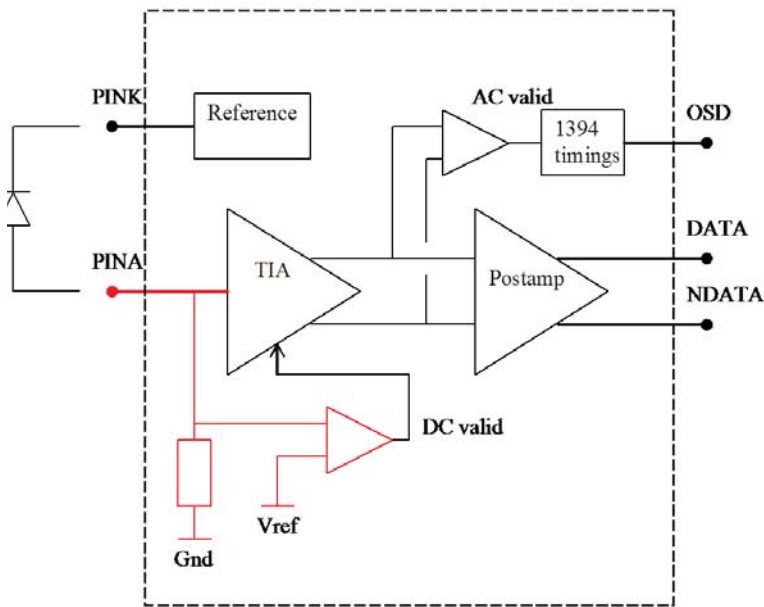

Figure 5.
The FDL301E/D FOT pair, when configured as IEEE 1394-compliant, supports the IEEE 1394b and IDB-1394 PMD wake up on LAN specification. Low power mode is triggered by the differential voltage signal swing at the input to the Tx dropping below 50 mV. In this case, the Tx switches to a sleep power state consuming a maximum of 20 μA . Ultra-low power mode is triggered by a hard-disable of the Tx, which is when the power to the Tx is switched off ($V_{cc} = 0\text{ V}$). In both low power and ultra-low power cases, the Rx responds to the Tx powering down. With the Tx powered off, the Rx signal detect (SD) drops low and remains low for more than 50 ms at which point the Rx also switches into sleep mode (consuming a maximum of 20 μA). The last power mode is referred to as power off. This occurs when the DC power (V_{cc}) to both the Tx and Rx is hard-disabled (switched off). The wake up is described by the circuit diagrams shown in Figures 5 through 7.